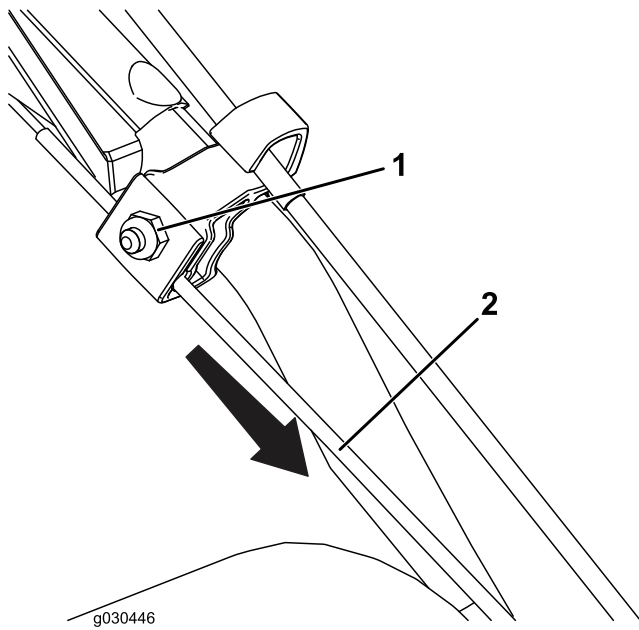

Figure 25
1. Loosen the nut on the upper cable clamp, but do not remove it (Figure 25).
2. Pull the cable down to remove most of the slack in the cable (Figure 25).
3. Tighten the nut (Figure 25).